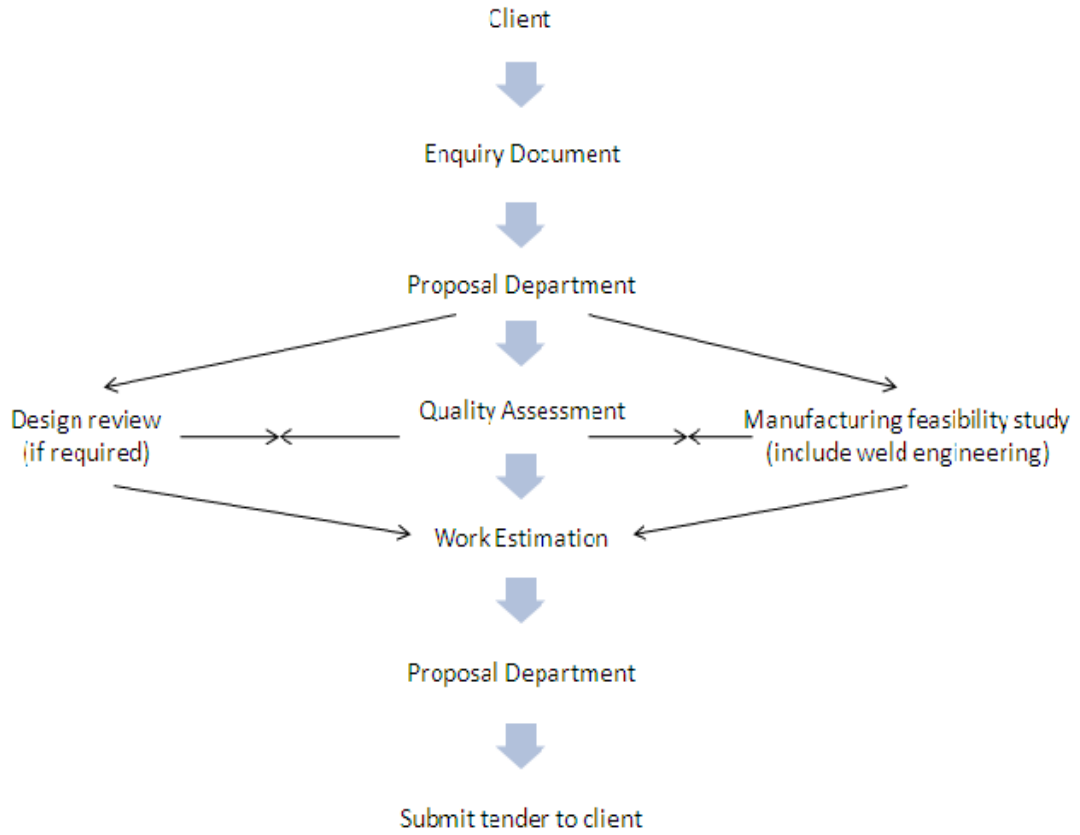

Figure 3 - Sequence of Operations
- (a) The most important aspect of any contract is to determine exactly what the fabricator is undertaking to manufacture. If this is not clearly defined and understood by all parties no amount of effort in the workshops can make the activity a success. **Figure 3** shows the sequence of operations in producing an estimate for fabrications adopted by large manufacturer.